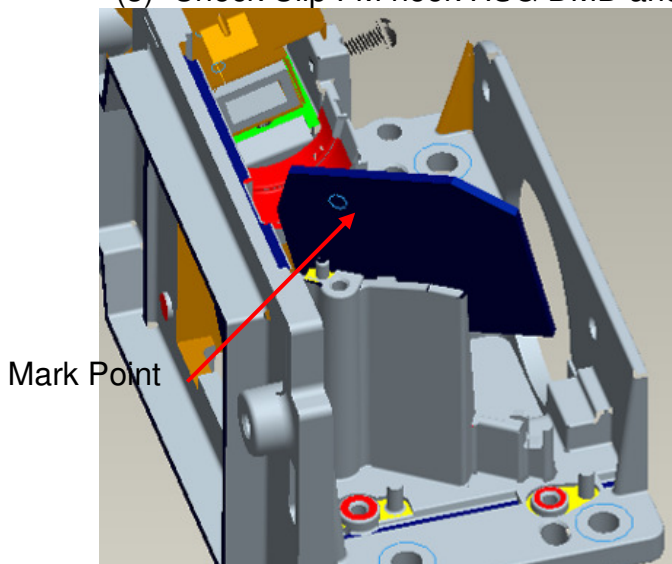

Fig. 2-7-1
- (1) Check mark point of FM and place FM on “HSG DMD” surface (Fig. 2-7-1, 2-7-2).